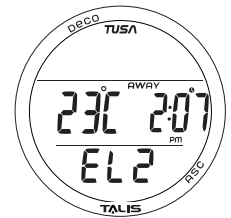

Fig. 82 - GAUG SURF ALT
**GAUG Surface ALT**, information includes (Fig. 82):